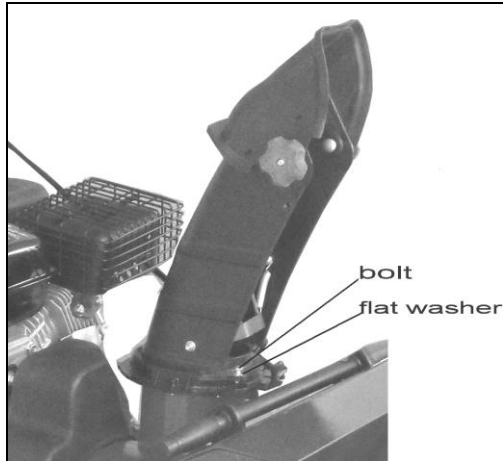

Figure 7
3. Put washer and bolt into the hole of the discharge chute, fasten it lock-wise. See figure 7